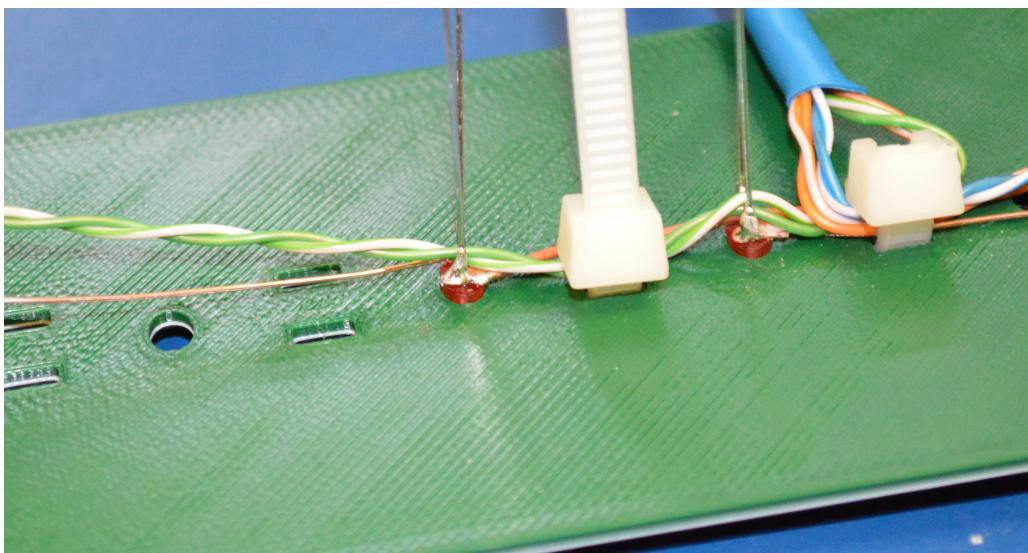

Figure 2.13: Solder the Second LED and Add a Cable Tie
- Solder the next LED and add a cable tie between them. See Figure 2.13.